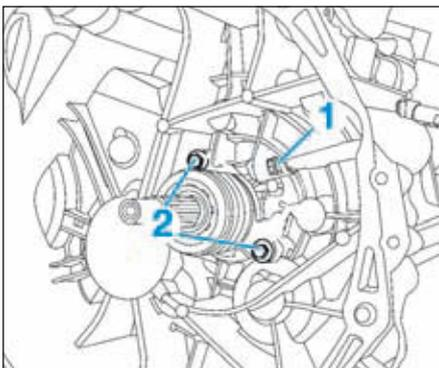

FIG.8
- le raccord hydraulique (1) (Fig.8),